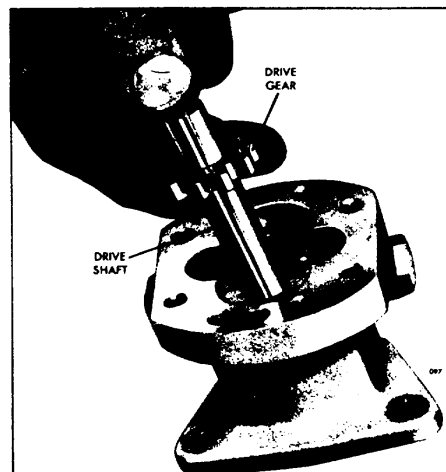

Fig. 8 Inserting Fuel Pump Drive Shaft and Gear Assembly through Oil Seals
4. Lubricate the pump shaft and insert the square end of the shaft into the opening at the gear side of the pump body and through the oil seals as shown in Fig. 8.